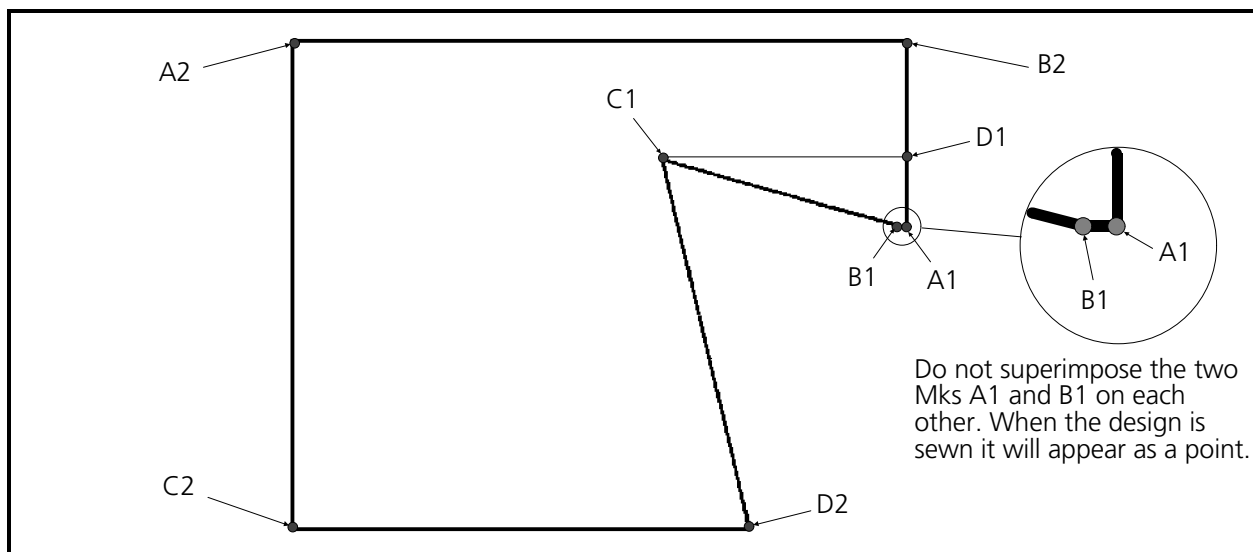

Figure 6-69
1. Draw a line between points C1 and D1 as shown in Figure 6-69. This line must be parallel to the top line of the design (A2 to B2 in the illustration).
2. At the first of the two fills (the triangle) label the first line "A1-B1" and last line "C1-D1" as shown in Figure 6-69.
3. Around the second of the two fills, label the first line A2-B2 and last line C2-D2, also shown in Figure 6-69.